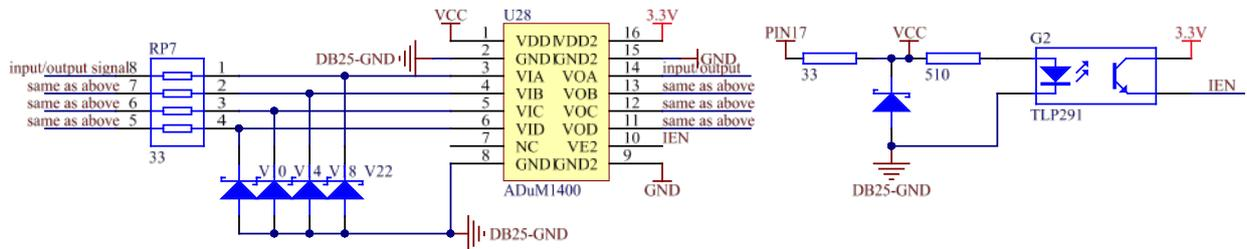

Figure 6. Schematic of input and output signals.
- 5) I/O connection of digital signal: the supply current of input signals are less than 10mA, and the supply current of output signals are less than 3 mA. The connection circuit of input and output signals is shown in Figure 6.